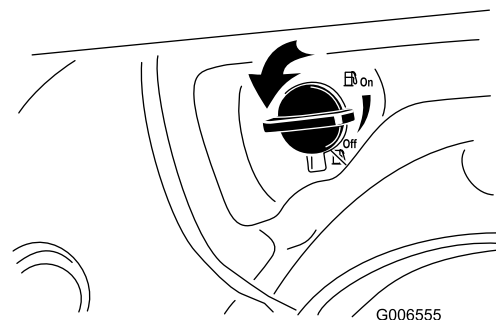

Figure 18
2. Turn the fuel shutoff valve 1/4 turn counterclockwise to open it (Figure 18).